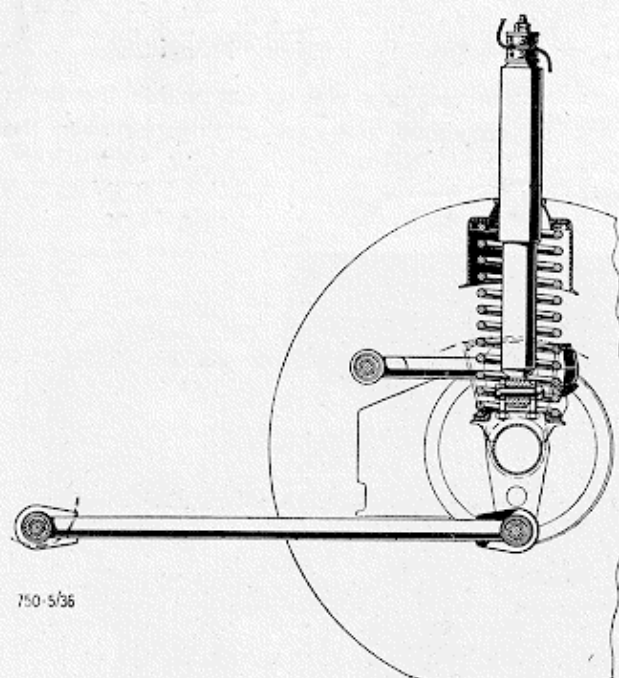

Fig. 36 - Rear suspension: Details of shock-absorber and coil spring assembly
- 1) Remove the nuts which hold the shock-absorber on the spring seat cup welded to the rear axle tube (Fig. 36). Press the bottom cylinder upwards and leave it in the end-of-compression position.